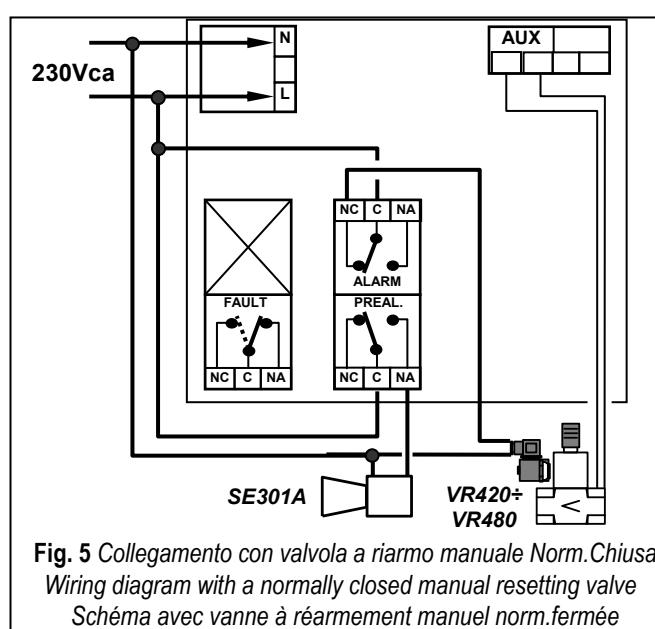

Fig. 5 Collegamento con valvola a riarmo manuale Norm. Chiusa
**Fig. 5** shows the 230VAC powering connection with alarm siren and our **normally closed manual resetting valve with positioning sensor** (models VR420÷VR480,) to verify, if an alarm occurs, the really gas cut-off.
**Fig. 5** shows the 12VDC powering connection with both 12VDC alarm siren and normally closed manual resetting valve with, for example, our power supply unit PS175 (1,2A) or PS180 (2,5A) with internal 12VDC-7Ah battery to maintain the system powered on in absence of Main power supply. In this case, it is possible to connect the power supply also to 230VAC.
**En figure 5** est illustré le schéma de raccordement sur secteur 230Vca, d'un dispositif avec sirène et de sécurité à réarmement manuel normalement fermée avec senseur de positionne (modèle VR420÷VR480) pour vérifier à la centrale si l'électrovanne est effectivement fermée.